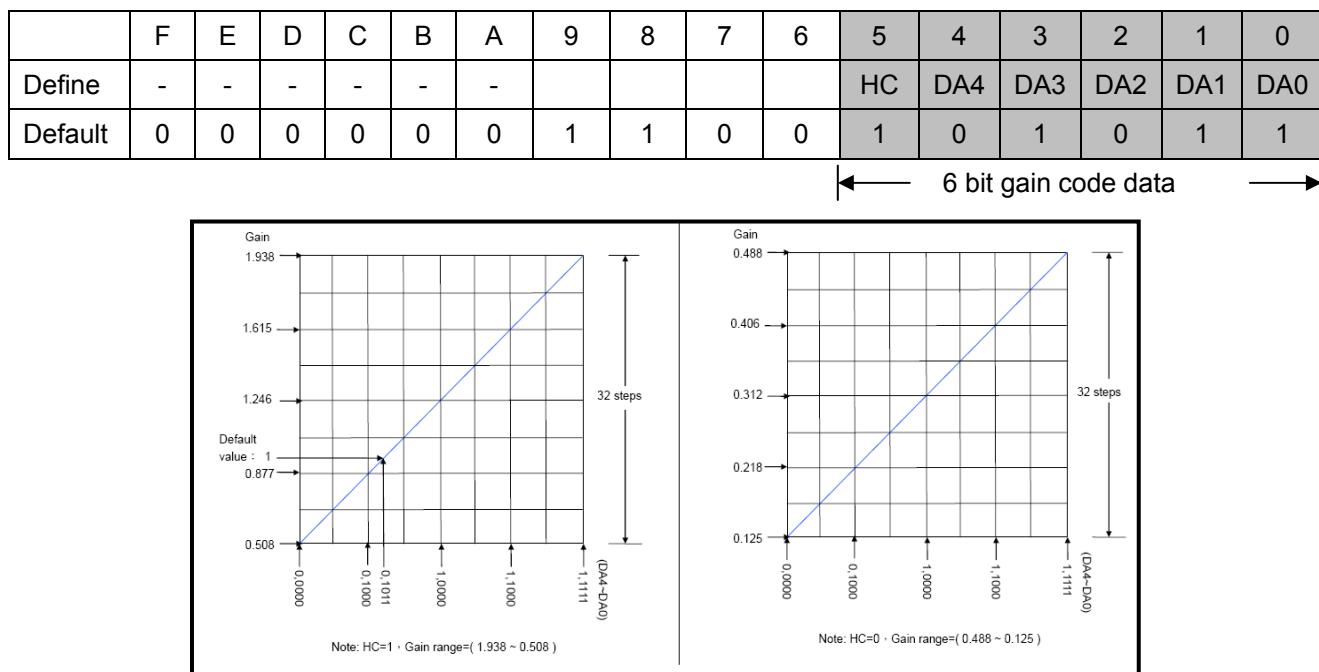

Figure 15. The relationship of current gain and gain code
Step 1: From (4), the  $R_{ext} = [(0.61 \times 1) / 20\text{mA}] \times 23 = 701.5\Omega$ . From figure 15, G=1 in the high gain region, that means the HC=1. Thus, substitute above information into (5), the  $D=(65xG-33)/3=10.67 \approx 11$ .